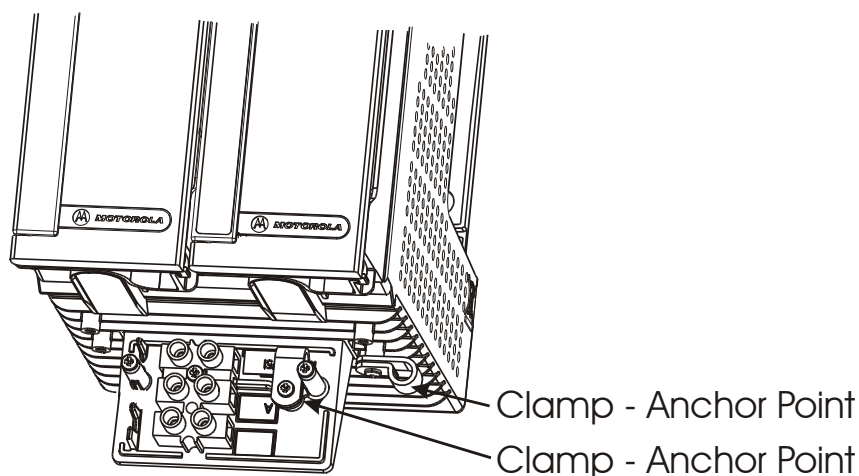

Figure 2-18 RTU on No I/O Frame – Cable Anchor Points 1 and 2
- Anchor point 1 for all units is inside the power junction box. (See Figure 2-18 below.)
- Anchor point 2 for the basic model (No I/O Slots Frame) is located on the right of the power junction box. (See Figure 2-18 below.)